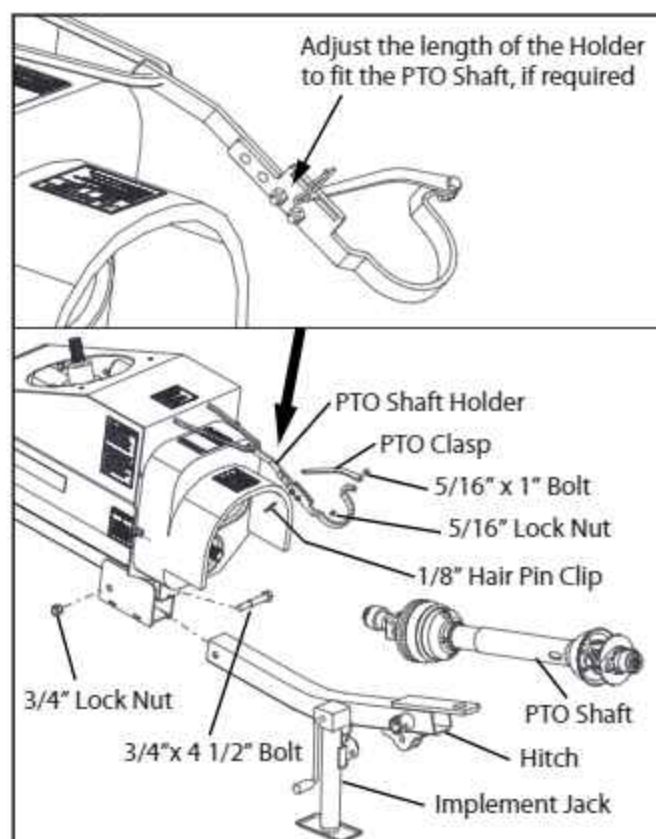

FIG. 3-31. Implement Jack & PTO Shaft Installation
1. Elevate the intake end of the tube and install the Hitch using a $3/4" \times 4\ 1/2"$ bolt and lock nut as shown in Fig. 3-31.
2. Install the implement jack in a vertical position with the retaining pin securely in place as shown in Fig. 3-31. Mount the Jack on the same side of the auger as the Hopper Lift Arm.